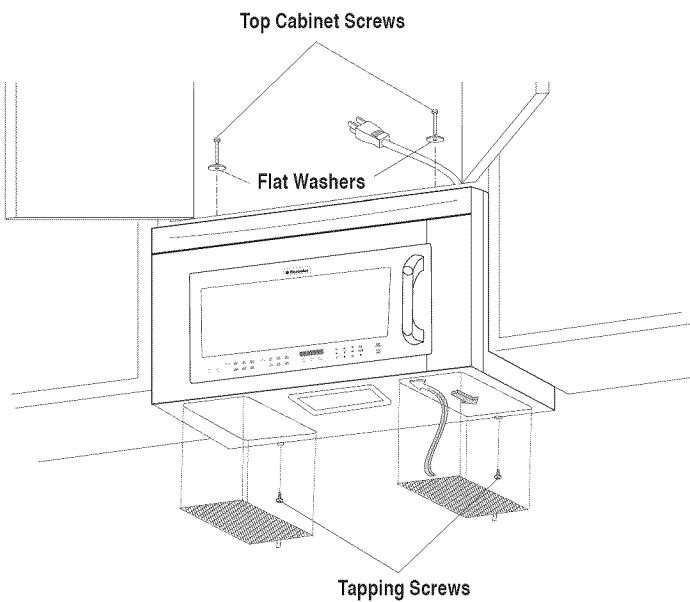

Figure 19
- Use the two Top Cabinet Screws and two Flat Washers, supplied in the INSTALLATION HARDWARE, to attach the unit to the top cabinet. See Figure 19 on page 7.
- Secure the bottom of the oven to the Mounting Plate by using two Tapping Screws 4 x 8 mm from the INSTALLATION HARDWARE. See Figure 19 on page 7.